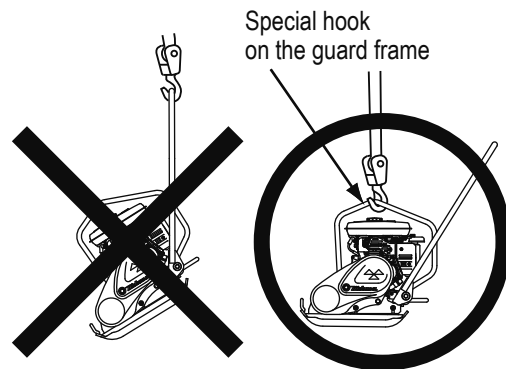

Fig. 21
3. When lifting, always use a hook. (Fig. 21)